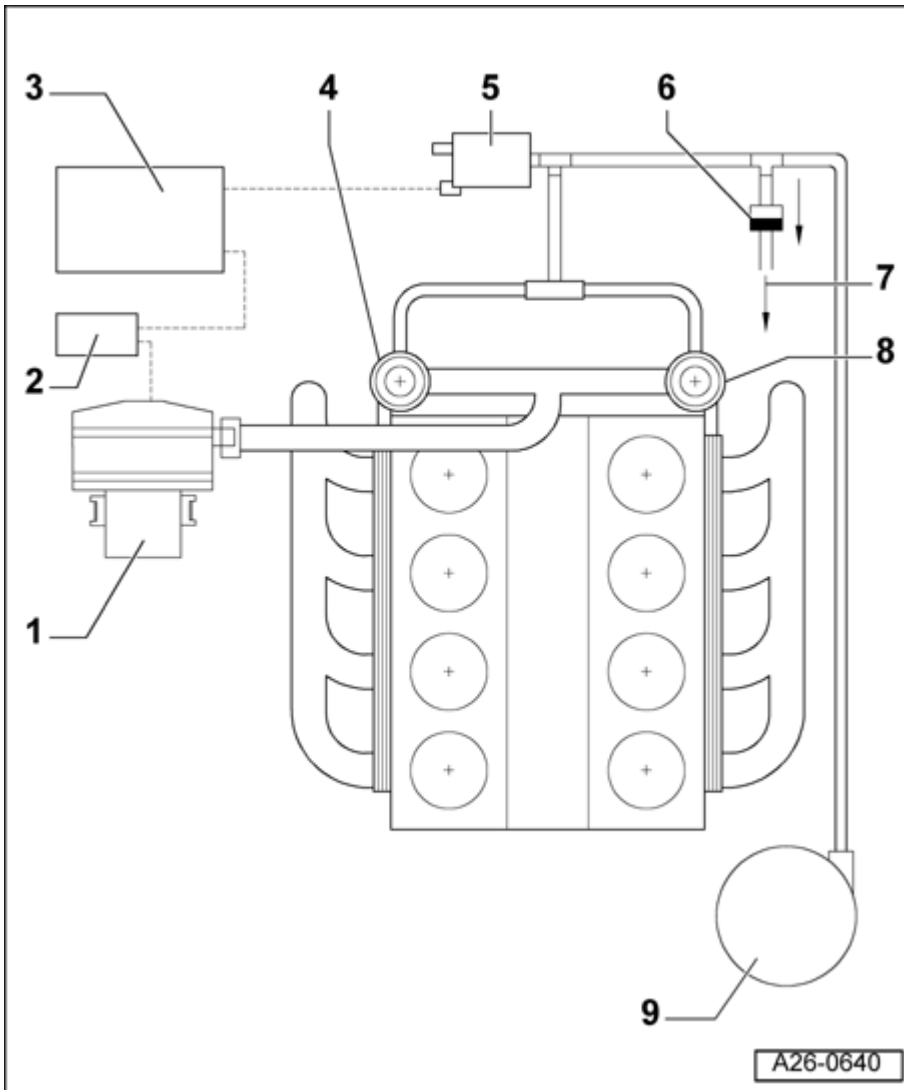

Fig. 560: Secondary Air Injection (Air), Component Overview
- Installed location: Arrow points in direction of flow, as shown in **Fig. 560**.